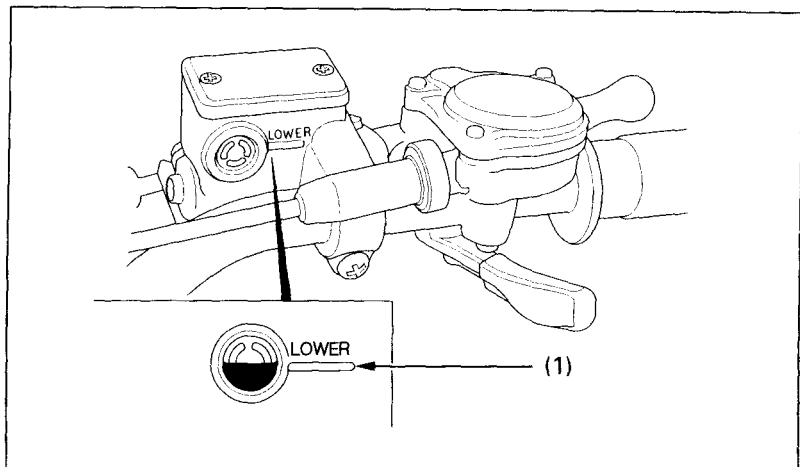

Fig. 4-23
Brake fluid must be added to the reservoir (Fig. 4-23) whenever the fluid level approaches the lower level mark (1). Use only DOT3 or 4 brake fluid and have it added by an authorized Honda dealer.